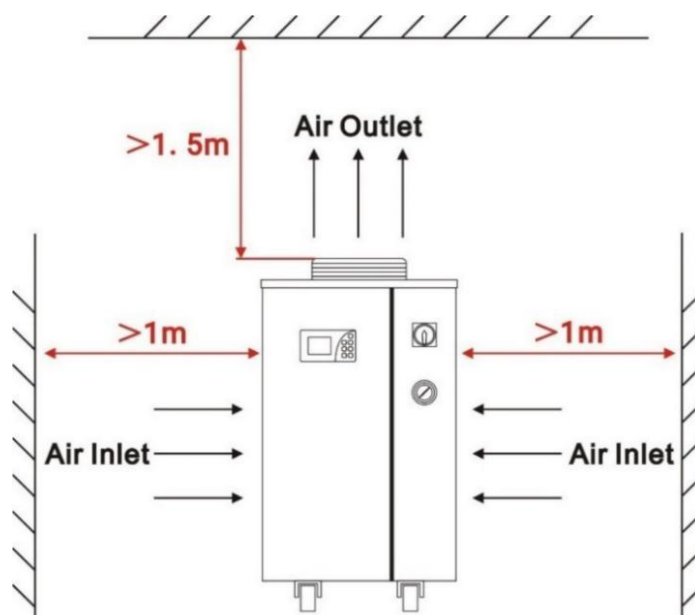

Figure 3: Space Requirements for Chiller Installation
(3) The air outlet of the chiller should be at least 1.5m away from the obstacle, and the air inlet must be at least 1m away from the obstacle (See below diagram), as shown in Figure 3.